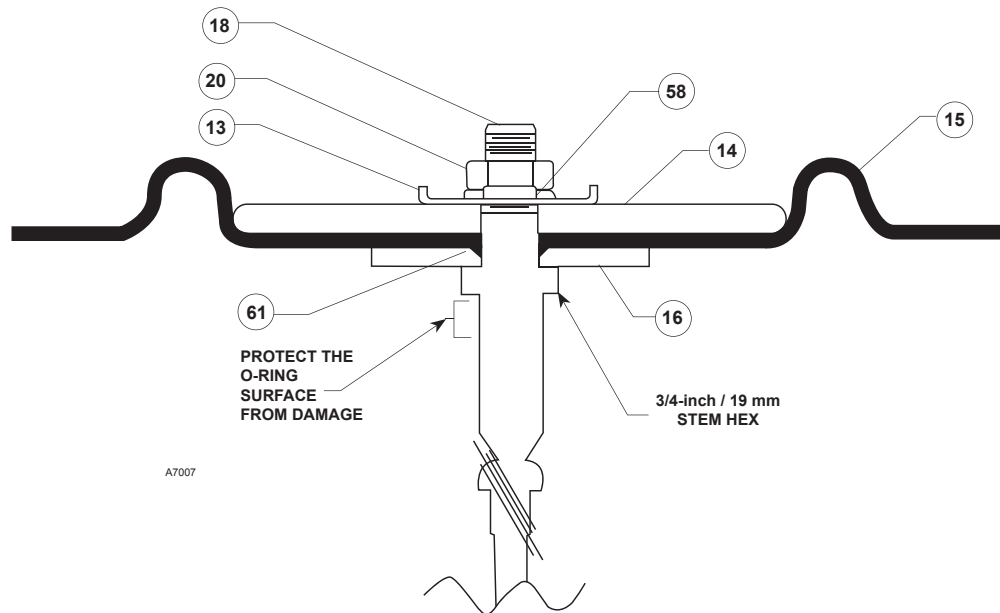
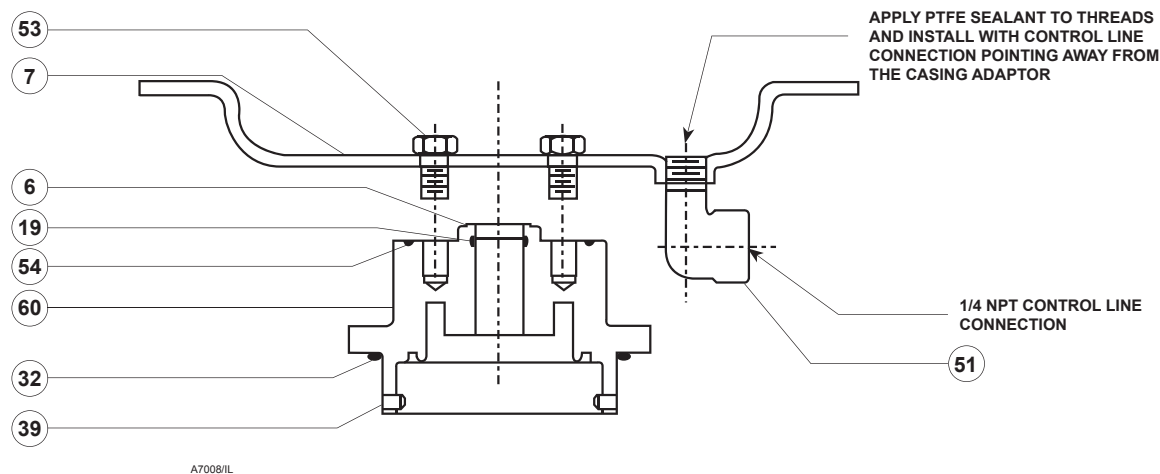
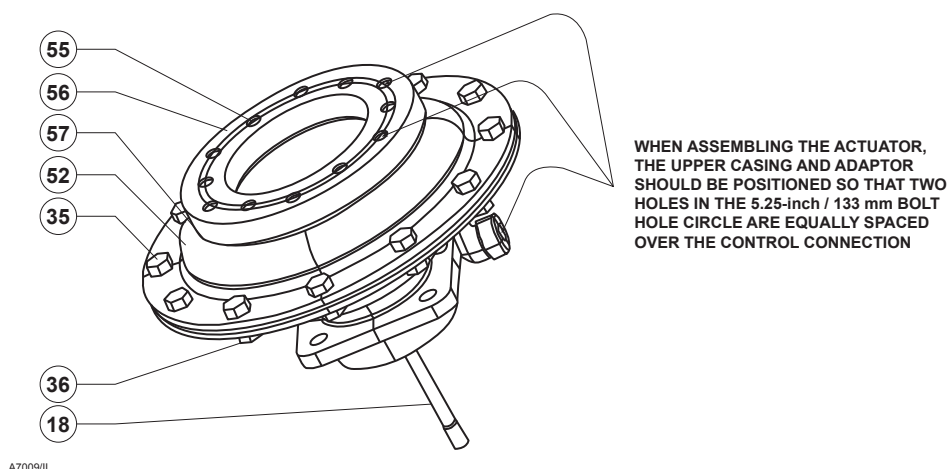

Figure 7. Stem and Diaphragm Assembly
Figure 8. Lower Casing and Casing Adaptor Assembly
Figure 9. Diaphragm Casing Assembly
Do not loosen the diaphragm casing cap screws (Figure 9, keys 35 and 36) when the control spring (key 12) has spring force applied to it. Release the spring compression as described in step 6.
This section includes instructions for disassembly and replacement of parts for the Type 133HP. All key numbers refer to Figures 7, 8, 9, and 14, except where indicated.
All key numbers refer to Figures 7, 8, 9, and 14, except where indicated.
1. With the Type 133HP completely disassembled, start the reassembly by applying Multi-Purpose PTFE lubricant or an equivalent to the stem threads (key 18) and diaphragm washer O-ring (key 61). Place the sealing diaphragm plate (key 16) on the stem followed by the O-ring (key 61), diaphragm (key 15), diaphragm plate (key 14), spring seat (key 13), lock washer (key 58), and hex nut (key 20) as shown in Figure 7. To prevent diaphragm damage, torque the hex nut (key 20) to 25 to 30 foot-pounds / 34 to 41 N•m, while using 3/4-inch / 19 mm wrench flats on the stem.
2. If the street elbow (key 51) was removed, it must be reassembled before mounting the casing adaptor (key 60). Apply PTFE sealant or equivalent around the external threads of the street elbow and tighten to a torque of 20 to 35 foot-pounds / 27 to 47 N•m. Position the control line connection (street elbow) so that it points away from the casing adaptor.
3. Lubricate the O-rings (keys 19, 32, and 54) and install as shown in Figure 8. Install the casing adaptor (key 60) to the lower casing (key 7) and tighten the cap screws (key 53) to 20 to 30 foot-pounds / 27 to 41 N•m of torque.
4. Insert the stem bearing (key 6) and carefully insert the stem (key 18) into the lower casing (key 7) and casing adaptor (key 60) assembly.
5. Assemble the upper diaphragm casing (key 52), mounting plate adaptor (key 56), and mounting plate gasket (key 57) as shown in Figure 9. Tighten the cap screws (key 55) to 20 to 30 foot-pounds / 27 to 41 N•m of torque.